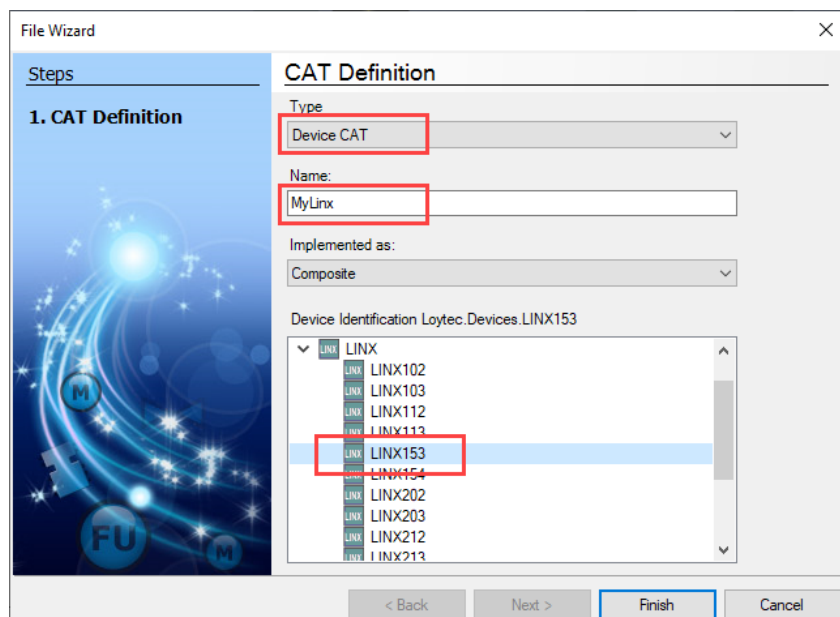

Figure 59: Create a new device CAT.
17. As a next step it is necessary to create a device type. In the 'KickStart' solution tree, select **CAT** → **Application**. Then right-click and choose **New Item**. Select Device CAT, enter a name and choose the device model, e.g. LINX-153, as shown in Figure 59.